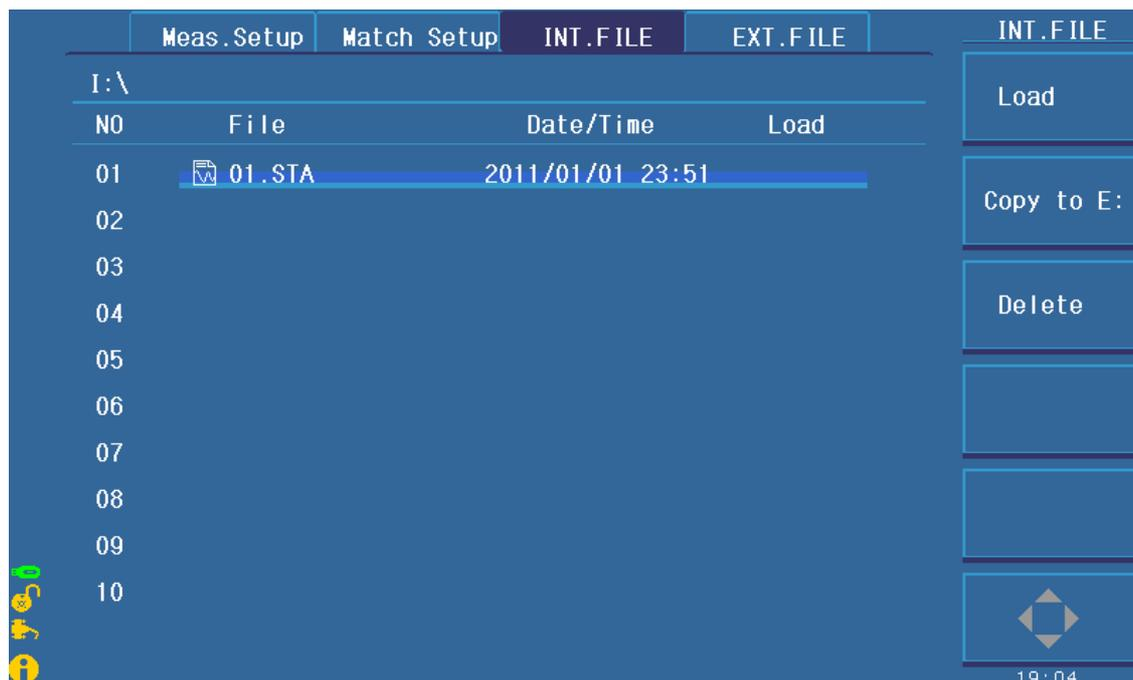

Figure 5-3 Internal File
TH2883 series can save parameters that are set by user to the internal non-volatile memory in file format. User can load the file to use these parameters instead of resetting. The internal memory can store 100 groups of files including files of measure parameters, compare parameters, etc. Figure 5-3 shows the page of internal file.
- ✧ **Load** Press this key to load a file stored in the internal non-volatile memory. As figure 5-3 indicates, using the arrow key or the roller can select the needed file. Press **LOAD** to load the file. If the selected file is needed to load, press **YES**; otherwise, press **NO**.